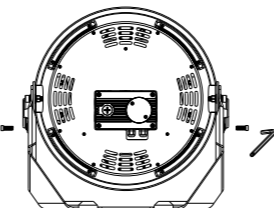

Figure 2
- 2:Fix it with M8 screws after adjusting to the required the angle (Figure 2).